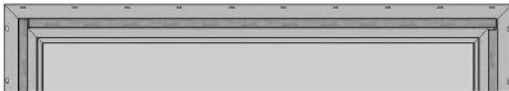

FIG. 3
- D) Wrap jamb extension around the window as shown. (Fig. 3)
- E) Make an "I-Cut" in the weather-resistant barrier (WRB). Begin with a horizontal cut along the bottom and the top of the rough opening. Then make a vertical cut in the center from top to bottom. (Fig. 3)